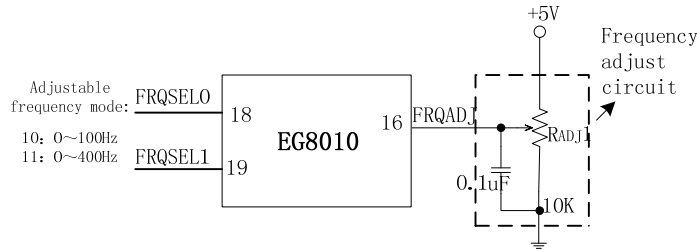

Figure 8.6a EG8010 Frequency adjust circuit
mode, “00” outputs 50Hz frequency and “01” outputs 60Hz frequency. FRQADJ has no function in constant mode. Pin (16) is used as VFB2 voltage feedback circuit under bipolar modulation. In adjustable frequency mode, “10” outputs frequency in range of 0-100Hz and “11” outputs frequency in range of 0-400Hz. Pin FRQADJ adjusts the frequency as shown in figure 8.6a. Pin FRQADJ’s voltage varies from 0-5V, which is corresponding to the fundamental wave output frequency from 0-100Hz or 0-400Hz. This function accompanies with pin VVVF can be used in the single phase frequency transformer system.